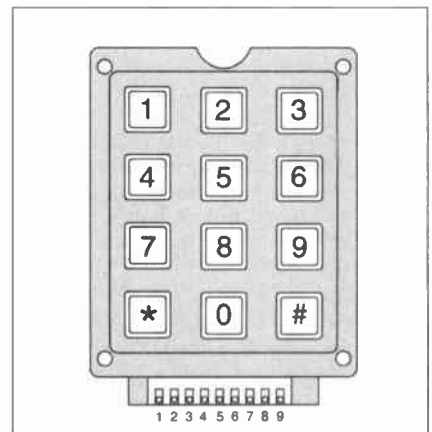
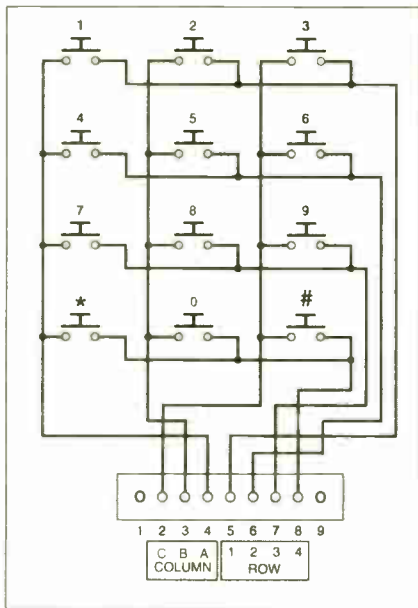

Fig.9.17. A common type of matrixed keypad.
Fig. 9.18. Arrangement of the switches in a matrix keypad.
Matrixed keypads are readily available, and a common type is shown in Fig.9.17, with its internal connections illustrated in Fig.9.18. Notice how the switches in Fig.9.18 are arranged in three columns and four rows. Hence, if you press key 1, column A will be connected to row 1. Pressing key 2 will connect column B to row 1, and pressing key 9 will connect column C to row 3, etc. So each key when pressed will connect a unique combination of columns and rows. Your electronic circuit will need
Note, however, that there is no agreement about the labelling of rows and columns between different makes of keypad, and the arrangement of pins is often misprinted in catalogues. The information provided in Fig. 9.18 is correct for all the keypads which have the same appearance as the one illustrated. Note that pin 1 is not used, nor is pin 9 if fitted.
The keypad is shown with seven connections, with the columns labelled A, B, C, and the rows labelled 1 to 4. This labelling will enable any keypad to be used, regardless of its pinout arrangement, providing the constructor has data for the arrangement of rows and columns within the pinout. You could of course use separate buttons, connected as shown in Fig.9.18.